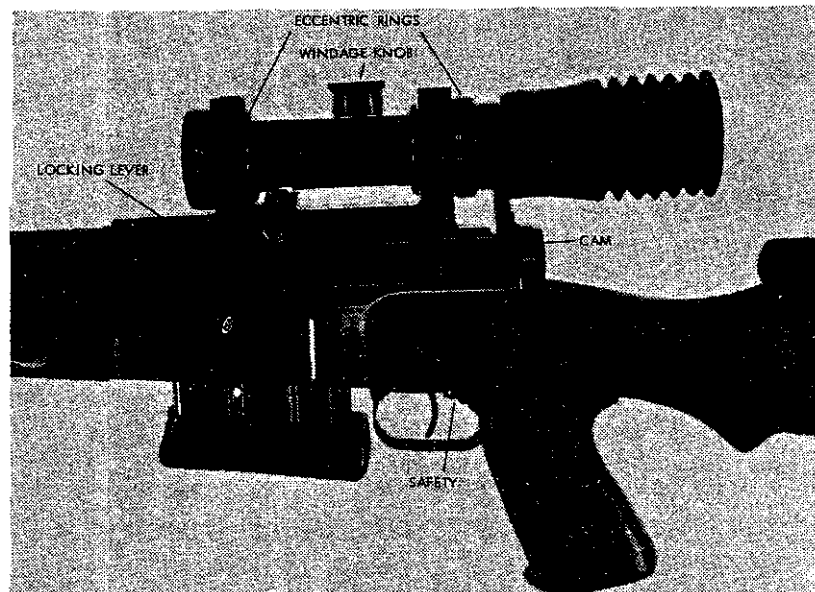

Figure 135. APX 804 telescopic sight.
a. After removing the telescope from its carrying case, mount the telescope on the rifle by mating the two claws on the right of the mount with the undercuts on the two dovetail pads on top of the receiver. The single lug on the left side of the mount must align with the slot between the two pads, and the locking lever (fig 135) must point rearward. Rock the telescope to the left, slide it forward until it stops, and swing the locking lever fully forward.
a. The FR-F1 rifle is manually operated. All energy to remove the fired cartridge and replace it with a fresh one is supplied by the shooter's manipulation of the bolt. As the bolt handle is turned upward, a camming action between the bolt and the firing pin retracts the firing pin point and compresses the firing spring. Concurrently, a cam at the root of the bolt handle bears against a cam surface at the left rear of the receiver (fig 135), providing slow initial extraction (if necessary) to break a sticking cartridge case loose from the chamber. The locking lugs on the bolt also rotate out of their seats in the receiver.
c. The M53 bis telescope can be zeroed to the rifle's point of impact. The eccentric plastic rings between the telescope and the mount rings provide a means of coarse adjustment; final, fine adjustments can be made on the windage and elevation knobs. Install the telescope on the rifle (para 176a), remove the rifle's bolt (para 177a), loosen the screws at the bottom of the mount rings, set the elevation knob at 2, and set the red line on the windage knob (fig 135) to its index. Select an aiming point at least 200 meters distant and, sighting through the barrel, center the various concentric rings in the barrel on the aiming point. If the point of the reticle does not coincide with the aiming point, rotate one or both of the plastic rings until the reticle does coincide. Recheck to insure the barrel is still aligned with the aiming point. If it is, tighten the screws on the mount rings. The FR-F1 rifle should now be fired, at 200 meters range, to provide three-shot groups. If the point of the reticle does not coincide with the point of impact of the bullets, loosen the three lock screws on the elevation knob. The adjustment tool, carried in the telescope carrying case, is used to loosen the screws. Rotate the windage knob and, using the spanner end of the adjustment tool, rotate the elevation zero ring until the point of the reticle and the point of